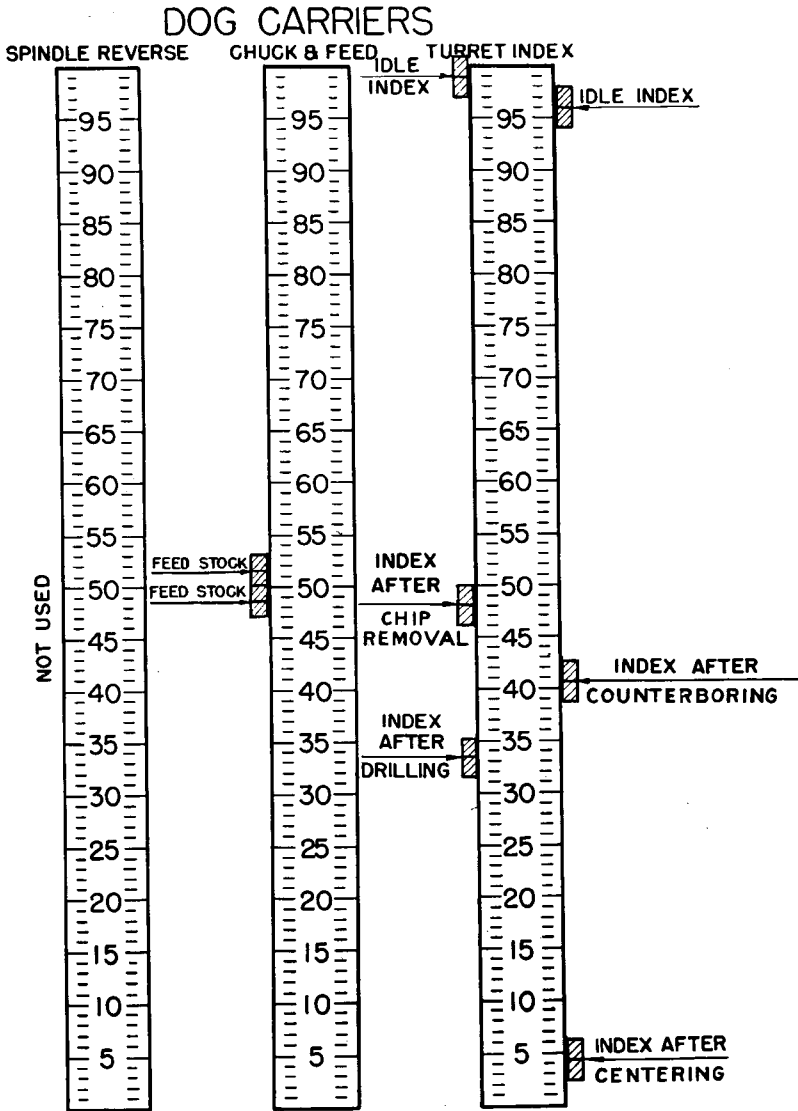

Fig. 3. Dog Settings for Job No. 11
**Set All Carrier Trip Dogs.** Fig. 3 shows approximate dog settings. The  $\frac{1}{4}$  second required for indexing and for feeding stock represents 2.5 hundredths of cam surface on this 10 second job. Thus dogs cannot be set less than  $2\frac{1}{2}$  hundredths apart. To feed twice, two trip dogs should be set on the chuck carrier with this minimum separation of  $2\frac{1}{2}$  hundredths.
On the diagram of trip dog settings, Fig. 3, the index after chip removal is set at position 48 and not at the peak of the lobe as is done on regular drilling. The speedy drill withdrawal obtained in indexing would not remove chips as effectively as the slow withdrawal of the cam drop.